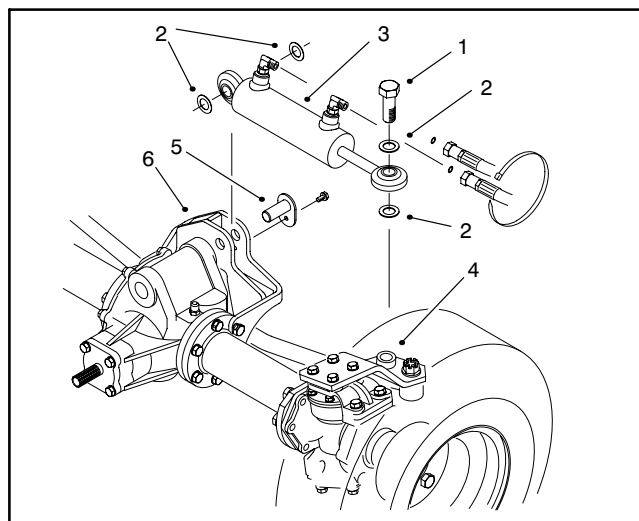

Figure 18
A. (4WD Unit Serial No. 80001 - 99999) Remove the lock nut, capscrew, and thrust washers securing the rod end of the cylinder to the steering arm. (Fig. 18).
A. (4WD Unit Serial No. 80001 - 99999) Hold the steering cylinder in position and install the pivot pin and thrust washers (Fig. 18). Use medium strength Loctite® thread locker and tighten the capscrew to 70 to 80 in-lbs. (8 to 9 Nm).